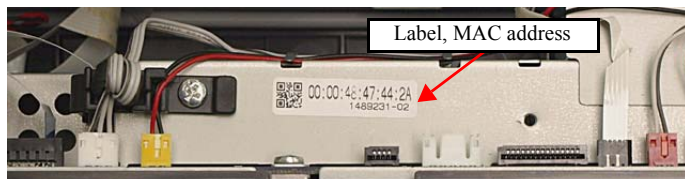

Figure 4-237. Position for the MAC Address Label
- When replacing the Main Board, the MAC address need to be set if the EEPROM data could not be read from the old Main Board. In this case, attach the new “Label, MAC address (Parts number: 1489232)” to the position shown in Fig. 4-237 and execute “5.2.6 “MAC Address Setting” (p223)”.